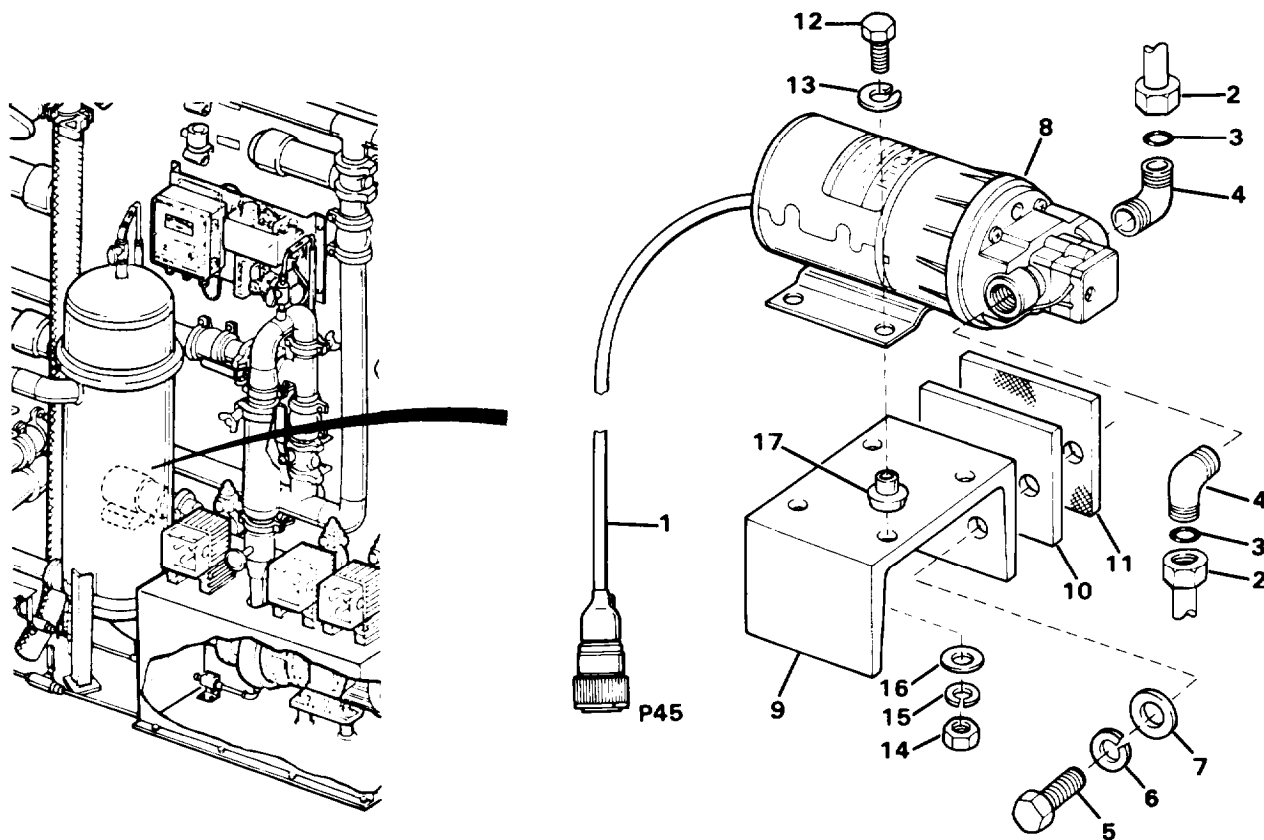

Figure 4-41. Backwash Hypochlorite Pump
- a. Disconnect electrical cable (1, Figure 4-41) at main harness. Cut wire ties (para. 4-10).
- b. Loosen nuts (2) and disconnect tubing (para. 4-26).
- c. Remove two screws (5), lockwashers (6) and washers (7) and remove pump (8) and bracket (9). Remove spacers (10) and (11).
- a. Remove elbows (4).
- b. Remove four screws (12), washer (13), nut (14), lockwasher (15) and washer (16).
- c. Remove pump (8) and four grommets (17) from bracket (9).